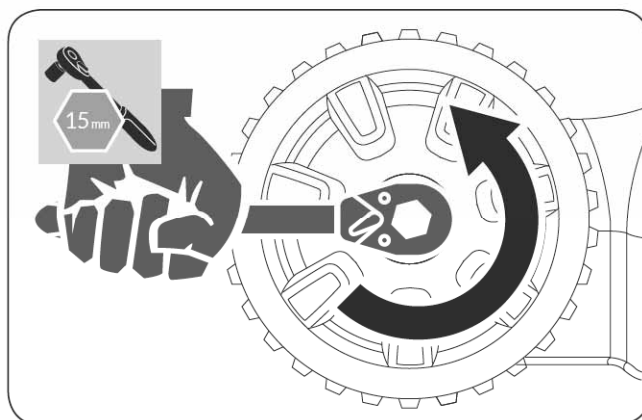

Figure 31
2. Remove the wheel nut and wheel from the wheel axle, using a 15 mm socket wrench. (See **Figure 31**)